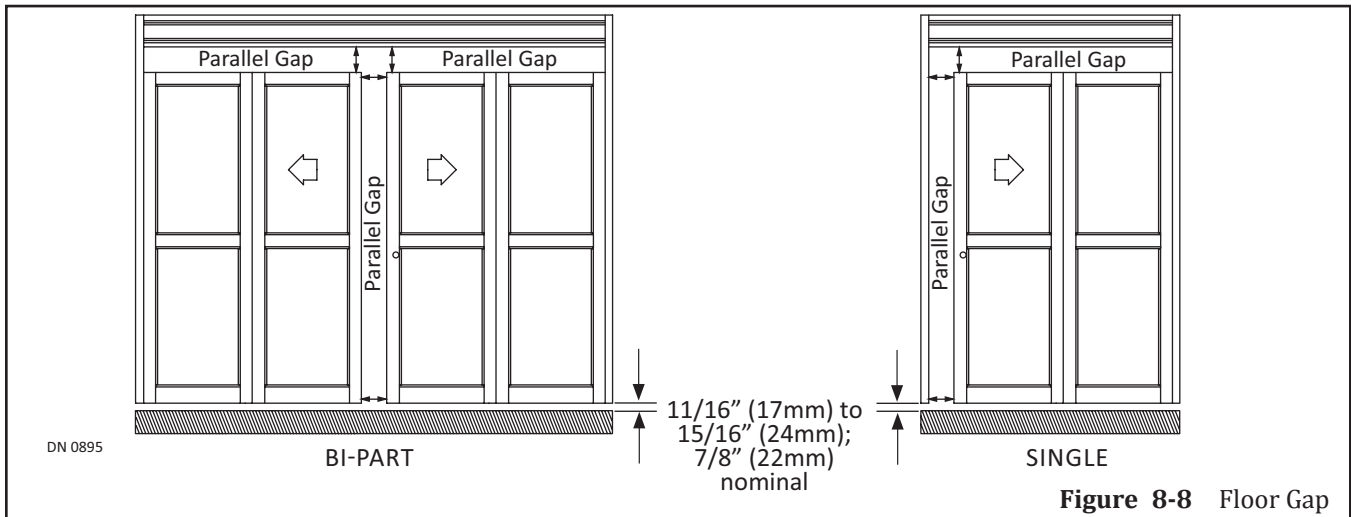

Figure 8-8 Floor Gap
3. Ensure the Leading Edge of the Slide door and (other Slide door or Jamb Tube) are parallel. Please see Figure 8-8.